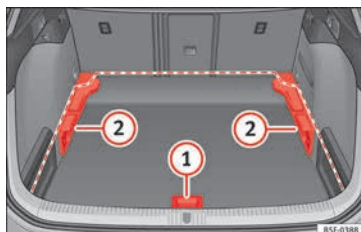
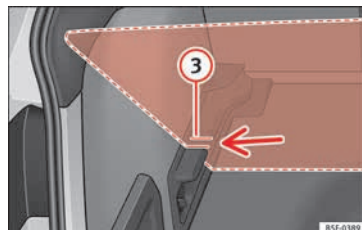

Fig. 179 Luggage compartment variable floor: positions.
Fig. 180 Luggage compartment variable floor: grooves tilted.
- Lift the floor using handle » **Fig. 179 ①** and pull it back until the front of the floor has fully passed the supports **②**.
- Move the floor forward over the supports as far as the rear seat backrest and then lower the floor with the handle **①**.
- Now match the front part with the lower grooves of the supports and slide the floor forwards as far as the rear seat backrest and lower the floor at the same time with the handle **①**.
- Lift the variable floor using handle » Fig. 179 ① and pull it back until the front of the floor has fully passed the tilted grooves » Fig. 180 ③.
- Run the floor through these grooves with the help of handle ① as the rear seat backrest and until the floor is resting in the grooves.